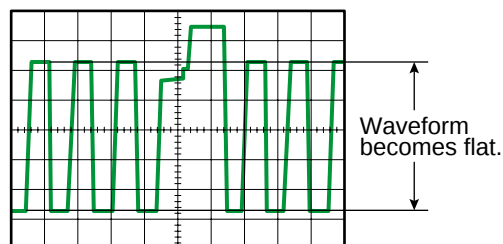

Fig. 4-4
- Adjust **STD TINT** and **STD COLOR** by pressing the Increment Button (+) or the Decrement Button (-) so that the waveform becomes flat as shown in Fig. 4-4.